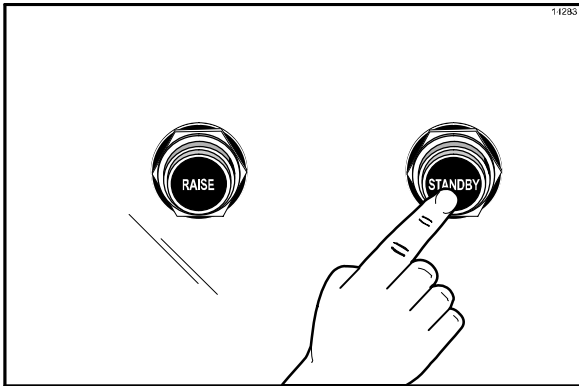

Figure 27
1. To place the upper platen in the STANDBY position, press the STANDBY button twice from the open position. (See Figure 27.)